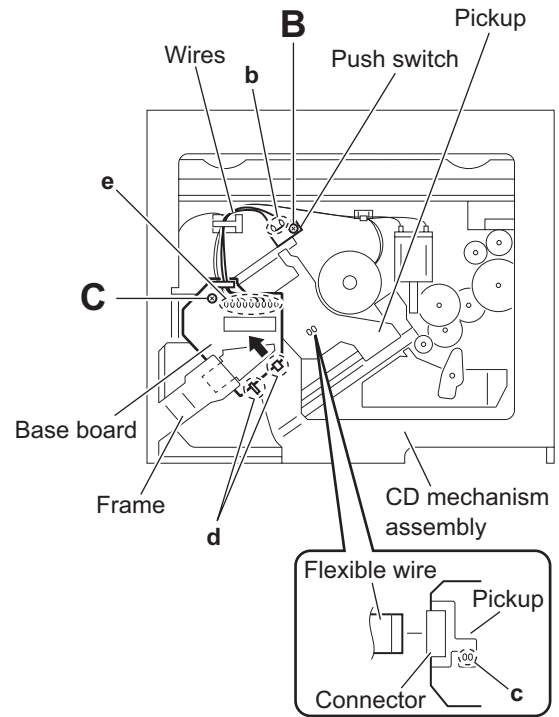

Fig.3
(See Figs.3 and 4)**
Solder the short land **c** before the flexible wire is disconnected from the connector on the pickup. If the flexible wire is disconnected without applying solder, the pickup may be destroyed by static electricity. (See Fig.3.)
- (1) From the bottom side of the CD mechanism assembly, remove the screw **C** attaching the base board. (See Figs.3 and 4.)
- (2) Solder the short land **c** on the pickup. (See Fig.3.)
- (3) Disconnect the flexible wire from the connector on the pickup. (See Fig.3.)
- (4) Remove the base board from the joints **d** of the frame in the direction of the arrow. (See Figs.3 and 4.)
Remove the wires from the soldered sections **e** on the base board as required. (See Fig.3.)
When reattaching the base board, be sure to remove solder from the short land **c** after connecting the flexible wire. (See Fig.3.)